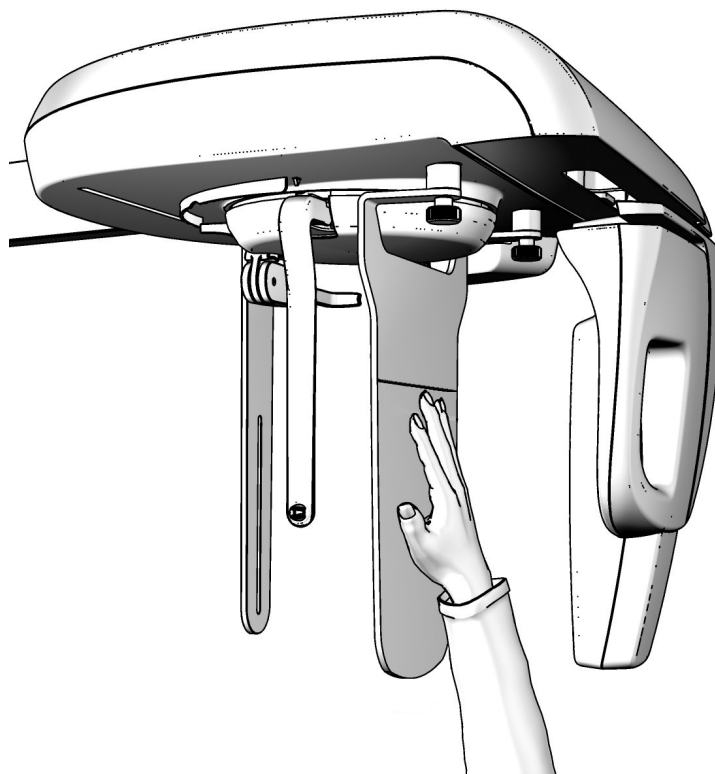

Figure 25
The image format set in order to carry out this examination is 18x22 Symmetric, not adjustable; it is therefore necessary to position the auricular rods and the nose-rest as for the cephalometric Antero-Posterior examination, so that these elements do not interfere with the X-ray trajectory. Refer to Figure 25.
4. Position the patient's hand on the positioning support (Figure 25), so that the hand results between the sensor and the plate itself.